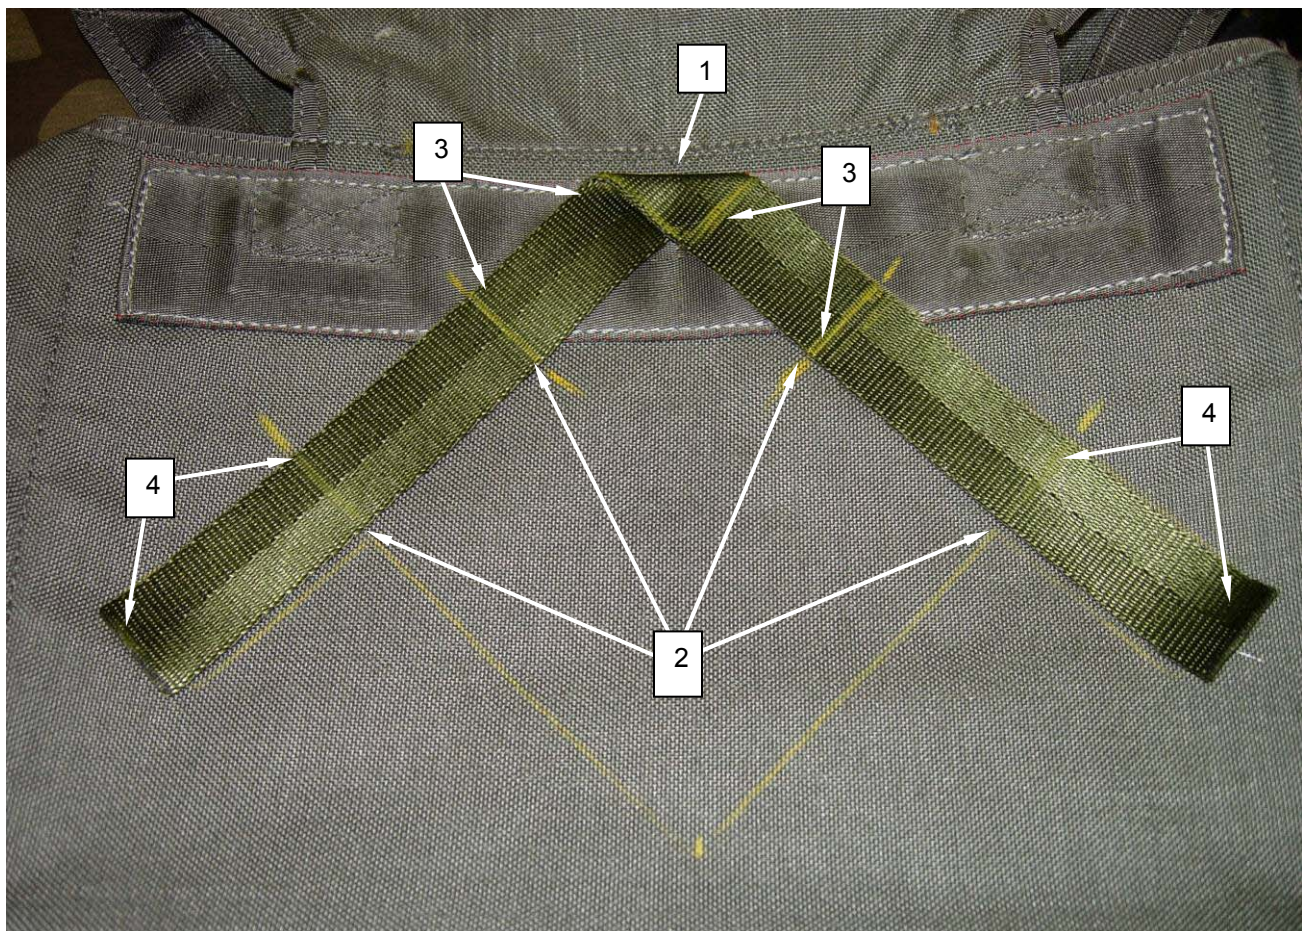

Figure 41. Mark the Diagonal Back Strap Keeper.
14. Once the diagonal back strap keeper (Figure 41, Item 1) is in place, use the marks on the diagonal back strap keeper and the pack tray (Figure 41, Item 2) to identify the location of the four box X stitching patterns. Stitching patterns are $1\frac{5}{8}$ inch (Figure 41, Item 3) and 2 inches (Figure 41, Item 4).